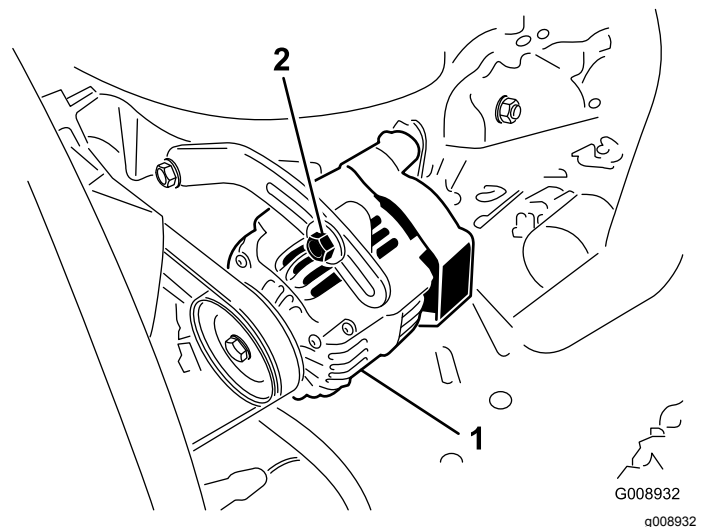

Figure 59
Check the condition and tension of the belts (Figure 59) after every 100 operating hours.
2. If the deflection is not 10 mm (3/8 inch), loosen the alternator mounting bolts (Figure 59).